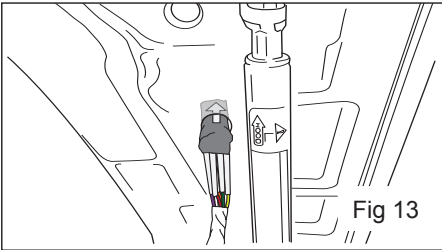

Fig 13
12. Route the harness with 12 loose pins, tape them together with electrical tape and route the wires through the hood, as shown. There are two holes; use the closest one to your vehicles firewall. (Figure 13)